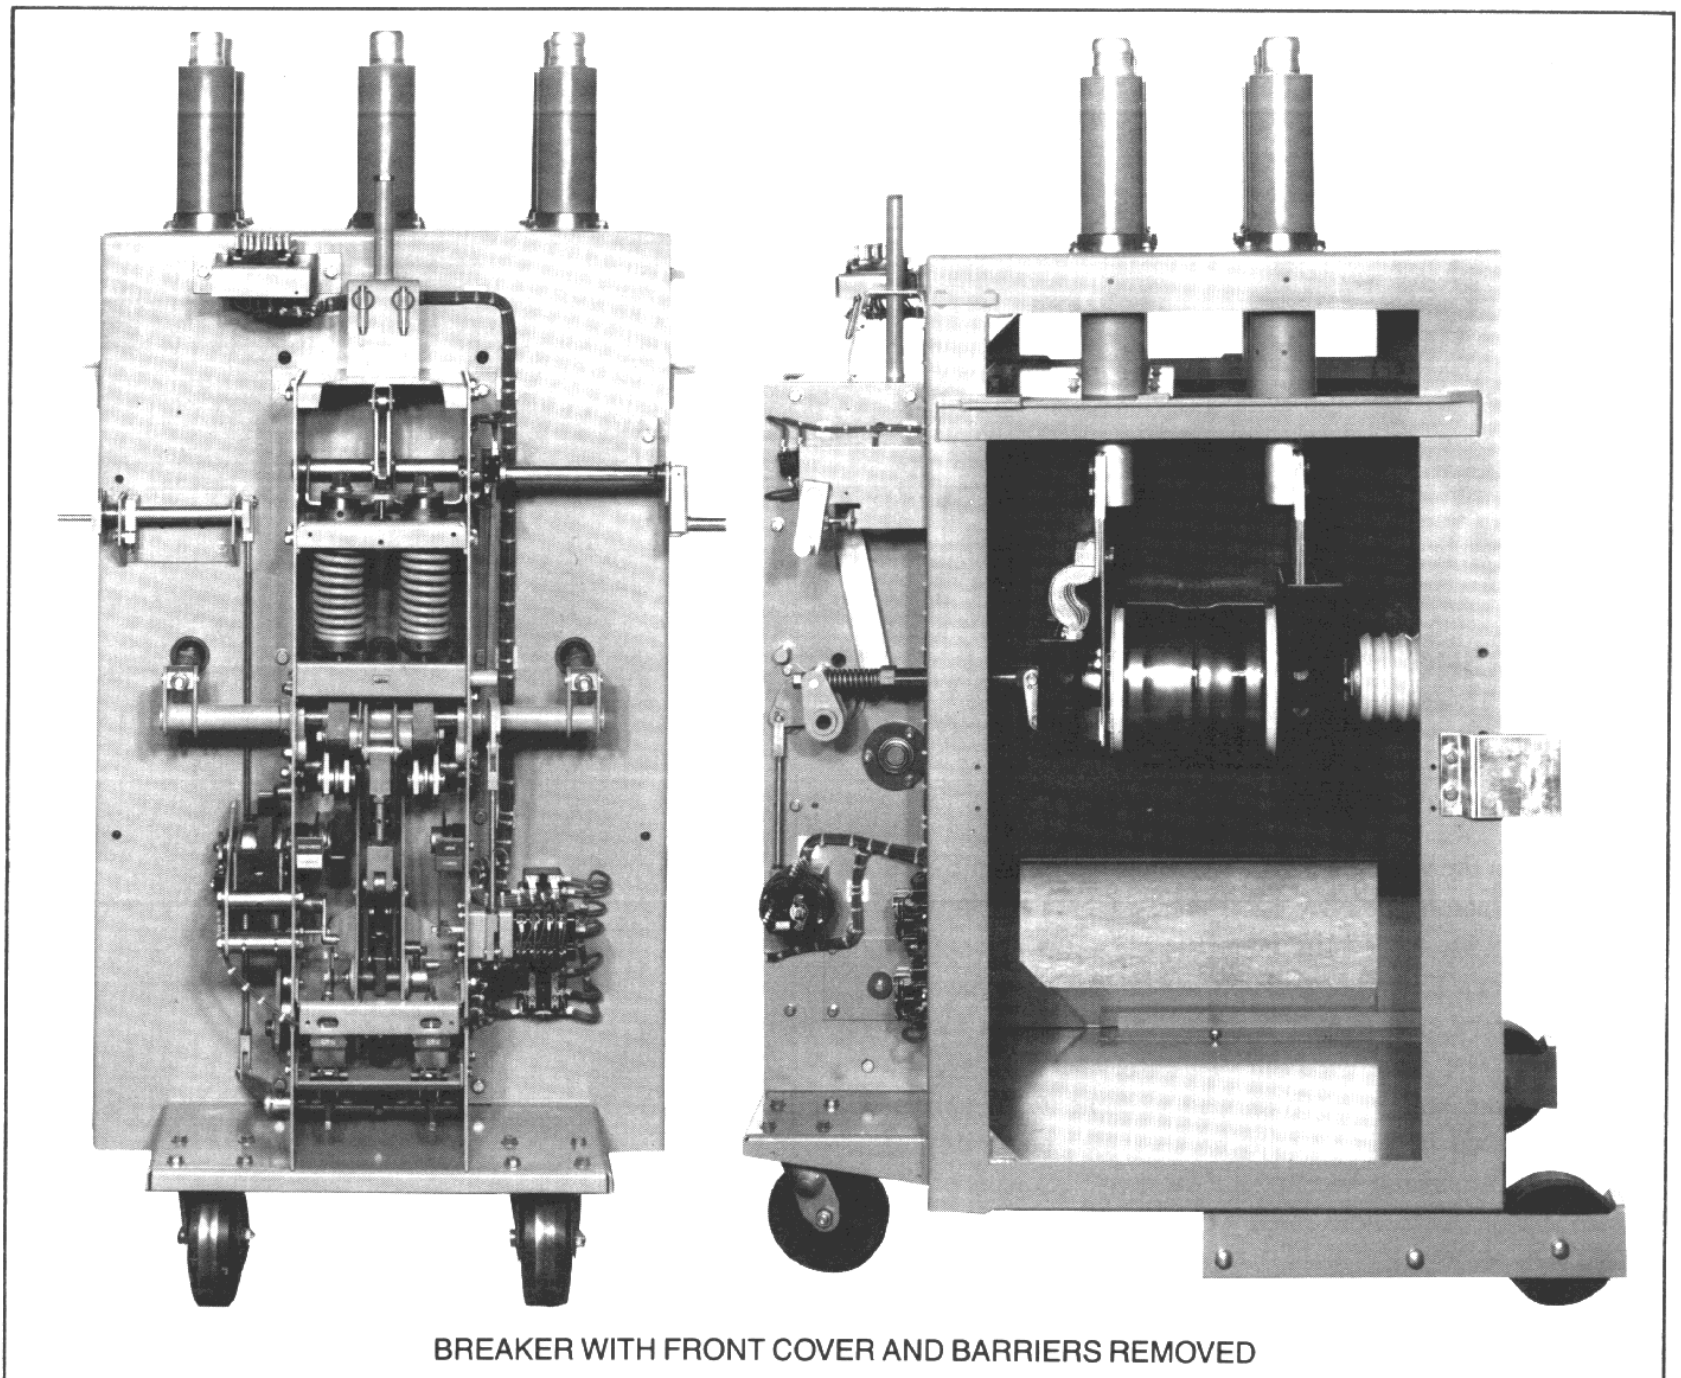

Figure 2
- a) Examine the entire breaker (Figure 2).